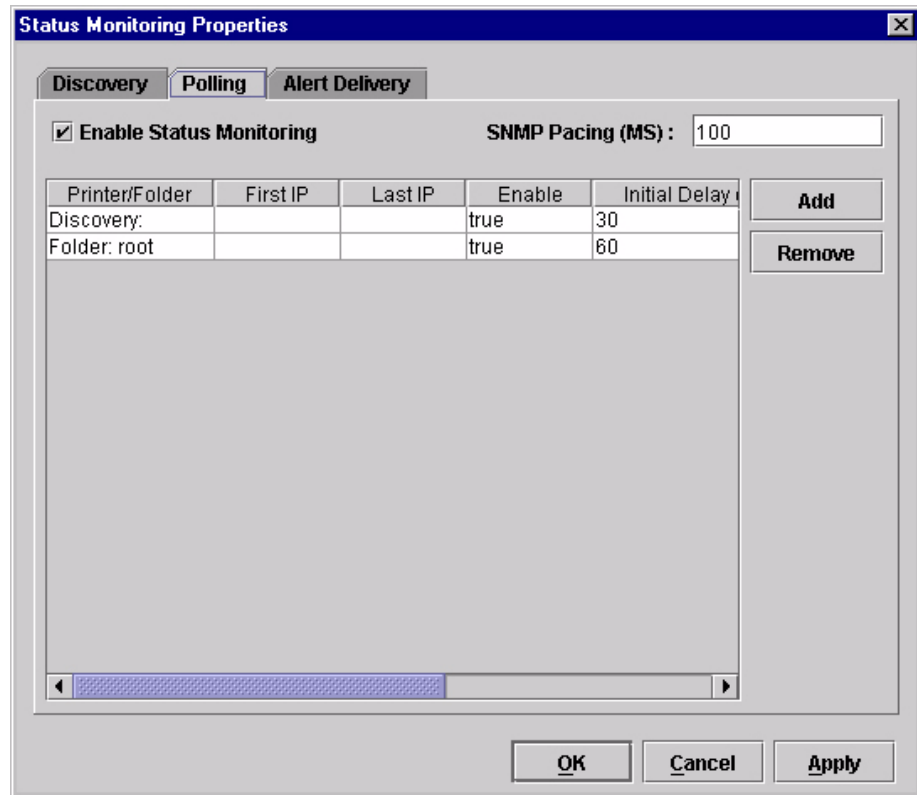

Figure 26. Status Monitoring Properties: Polling Tab
To enable the option, check the **Enable Status Monitoring** check box in the Polling tab (see Figure 26). The SNMP Pacing (MS) value places a delay between each SNMP request. This feature minimizes the network load. By default, the value is set at 100 milliseconds (.1 second).